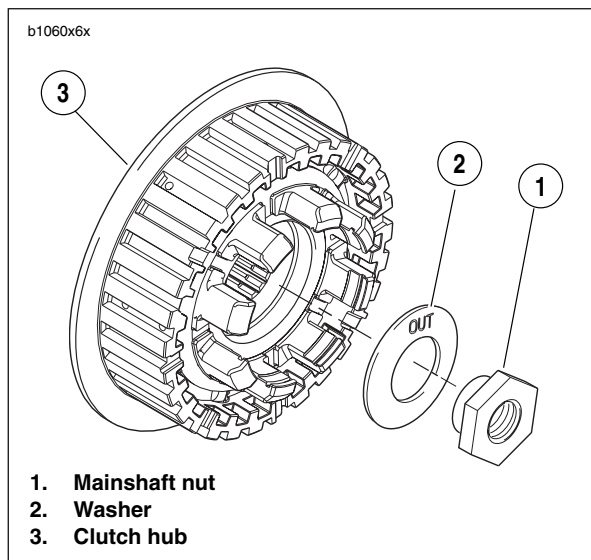

Figure 6-25. Mainshaft Nut and Washer
See Figure 6-25. Mainshaft nut has left-hand threads. To prevent damage, turn nut clockwise to loosen and remove from mainshaft.
6. See Figure 6-25. Remove mainshaft nut and washer.